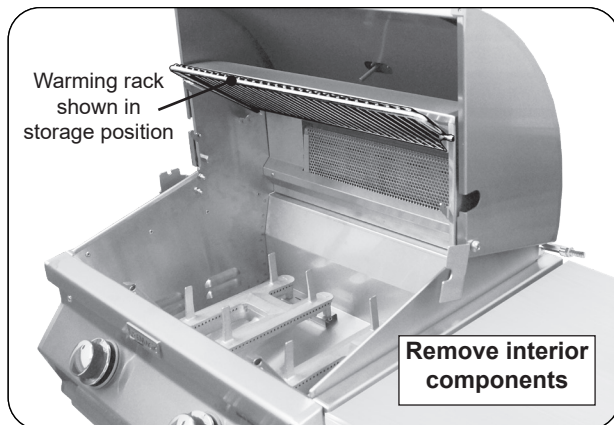

Fig. 38-1 Prepare grill for rotissing
1. On the gas side of the grill, set the warming rack to storage position, remove the backburner cover and cooking grids (see Fig. 38-1).